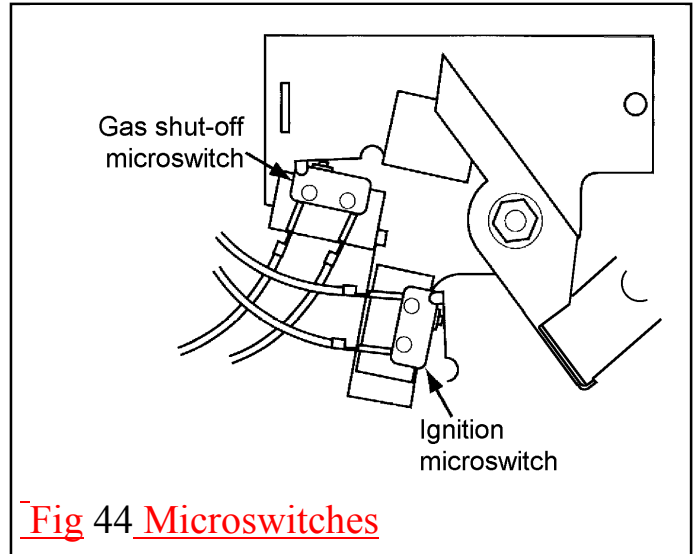

Fig 44 Microswitches
3. Disconnect the leads from the ignition microswitch (The lower of the two microswitches - See figure 44).
4. Detach the microswitch assembly by removing two screws. See figure 44.